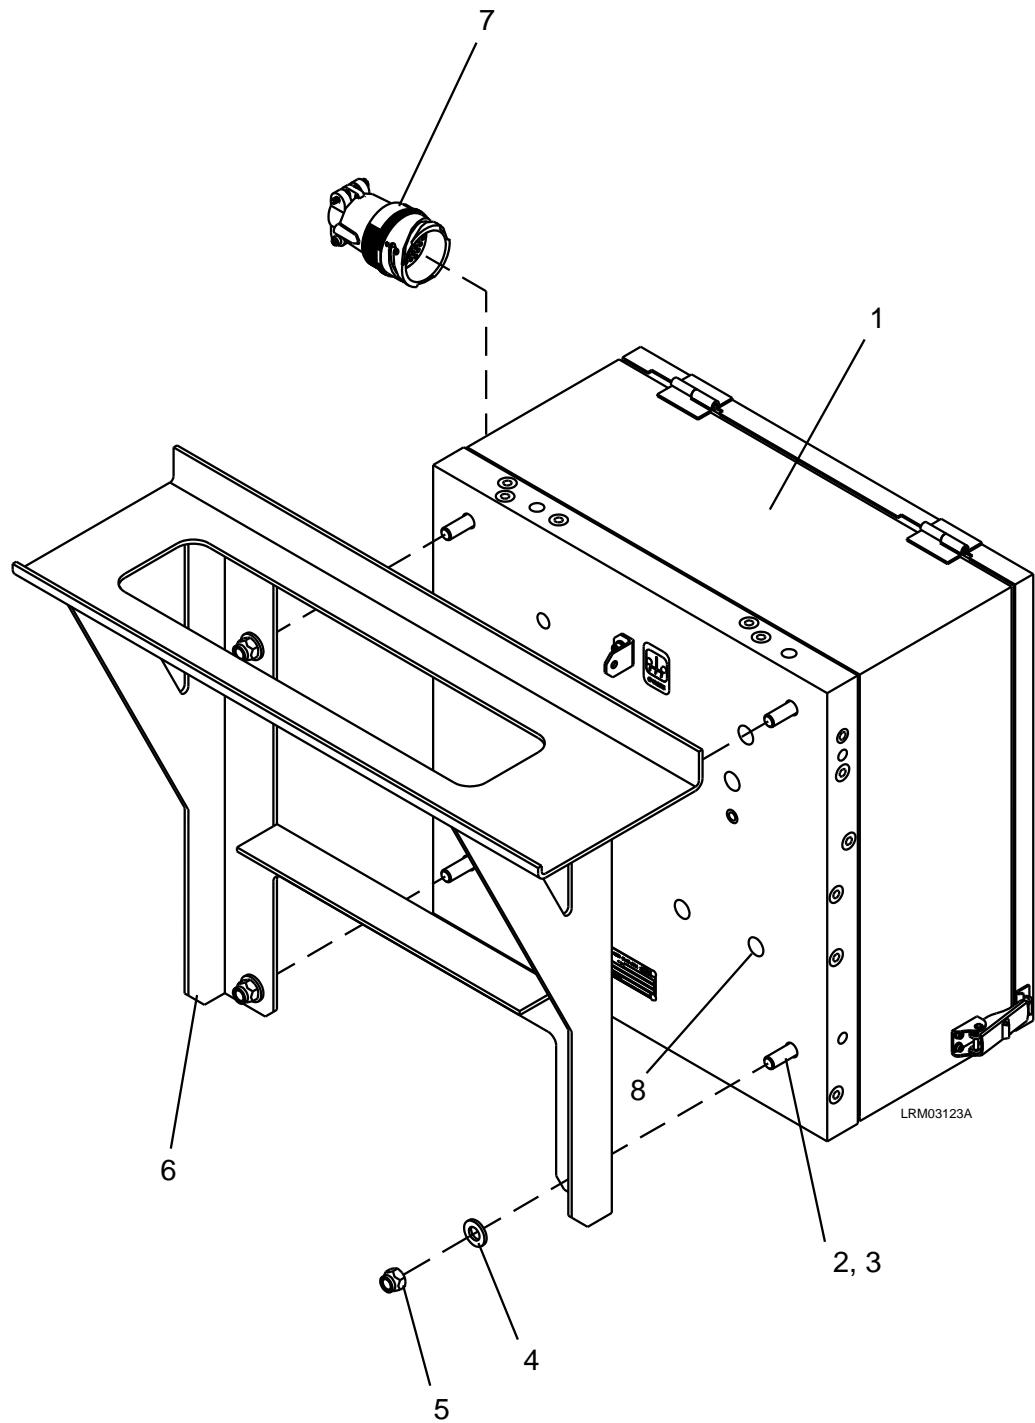

Figure 7-109: Brake Control Unit (Center Truck)
2. Disconnect the electrical connector (7) to the Brake Control Unit (1). See Figure 7-109.